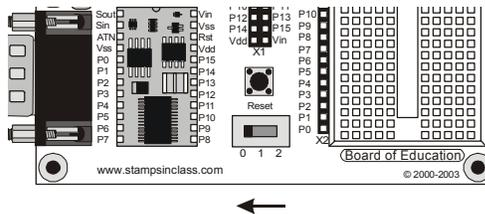

Figure 1-49
- √ If you are using the Board of Education Rev C, move the 3-position switch to position-0 by pushing it to the left as shown in Figure 1-49.